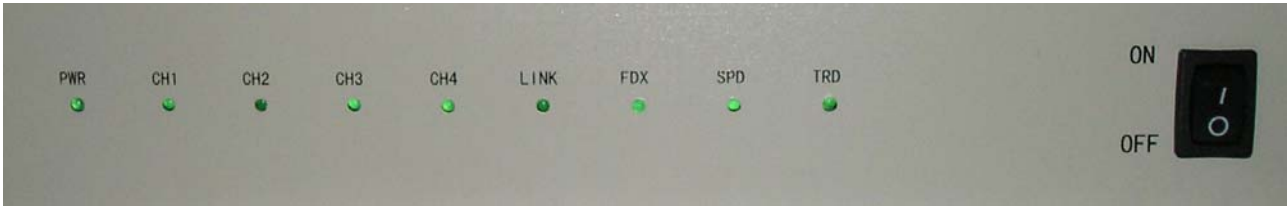

Figure 5-1
5.1.1 Labels, LED indicators and dip switches on the front panel are shown in Figure 5-1 below: